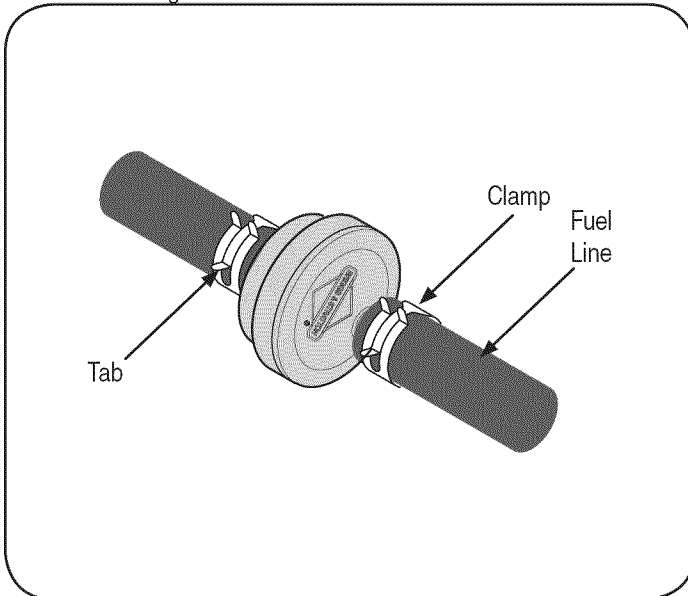

Figure 9
2. Use pliers to squeeze tabs on the clamps, then slide the clamps away from the fuel filter. Twist and pull the fuel lines off of the fuel filter. See Figure 9.